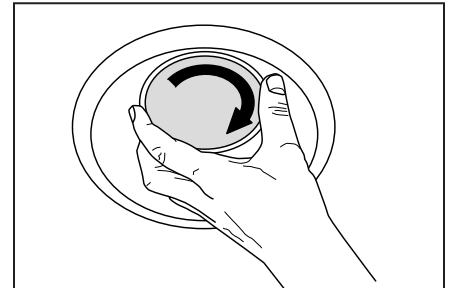

Figure 9
**Step 2.** Locate the REFLECTOR that was packaged with the remodel housing and take note of the flange details at the top of the part. Install the REFLECTOR by aligning and inserting it into the fixture and rotating it 1/4 turn clockwise until it stops (Figure 9).
**Step 1.** Locate the REFLECTOR that was packaged with the remodel housing and take note of the flange details at the top of the part. Install the REFLECTOR by aligning and inserting it into the fixture and rotating it 1/4 turn clockwise until it stops (Figure 9).